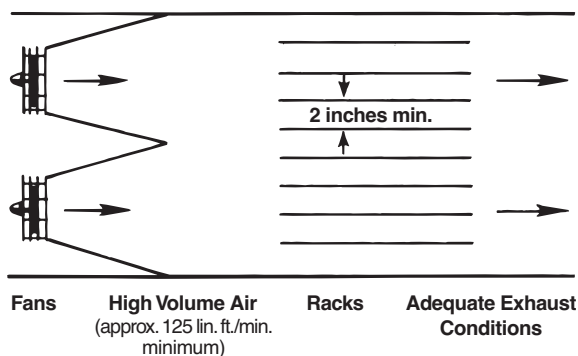
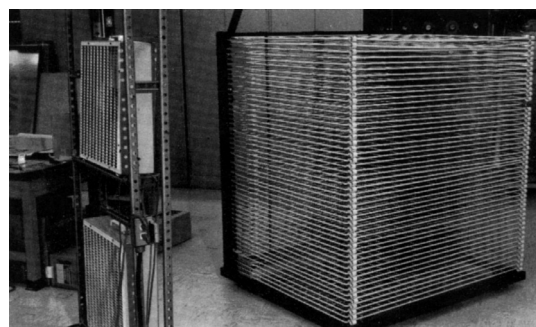

Figure 4: Schematic Drying Set-up For Air Drying
Figure 5
1. Signs should be racked with at least 2 inches of unobstructed space for air flow between layers. See Figure 4 and Figure 5.